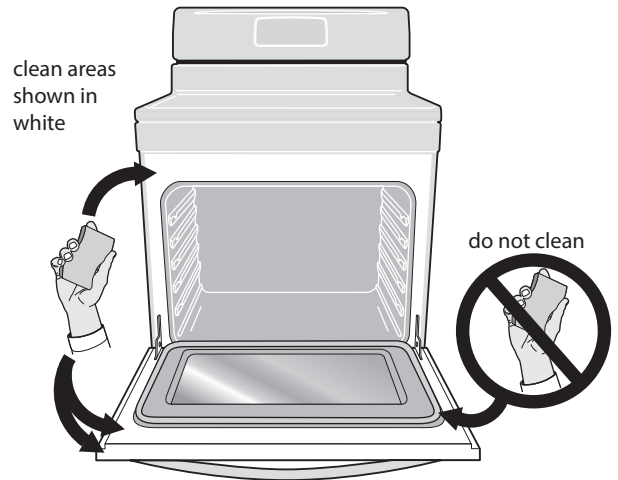

Fig. 64 Areas of oven door and frame: Clean with caution
- **Do not clean the oven door gasket** (Figure 64). Do not use any cleaning materials on the oven door gasket. Doing so may damage the gasket. The woven material of the oven door is essential for a good seal. Care should be taken not to rub, damage or remove the door gasket.